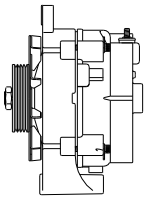

FIGURE 2 – Notch in Cowling Nose Bowl
8. It may be necessary to notch the fiberglass cowling nose bowl to prevent the rubbing of the alternator shaft/nut. The clearance must be a minimum of 0.25". See Figure 2.